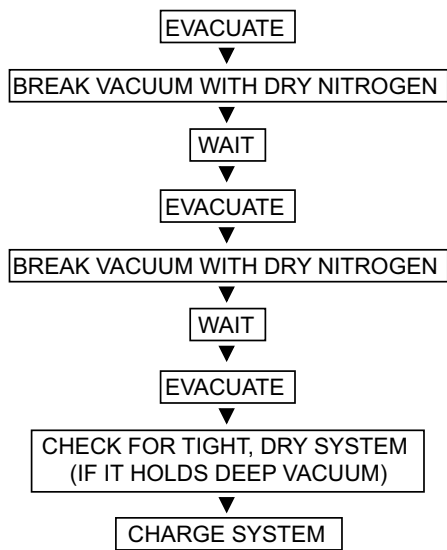

Fig. 27 – Triple Evacuation Method
The triple evacuation method should be used when vacuum pump is only capable of pumping down to 28 in. of mercury vacuum and system does not contain any liquid water. Refer to Fig. 27 and proceed as follows:
5. Repeat this procedure as indicated in Fig. 27. System will then be free of any contaminants and water vapor.